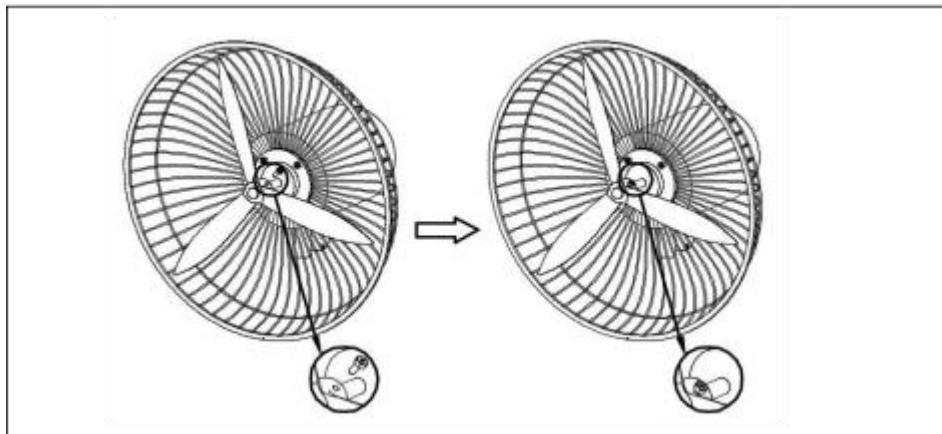

Fig.6.
2). Install the fan blade(14) on the motor shaft, and then lock the blade screw(16).See the (Fig.6.)